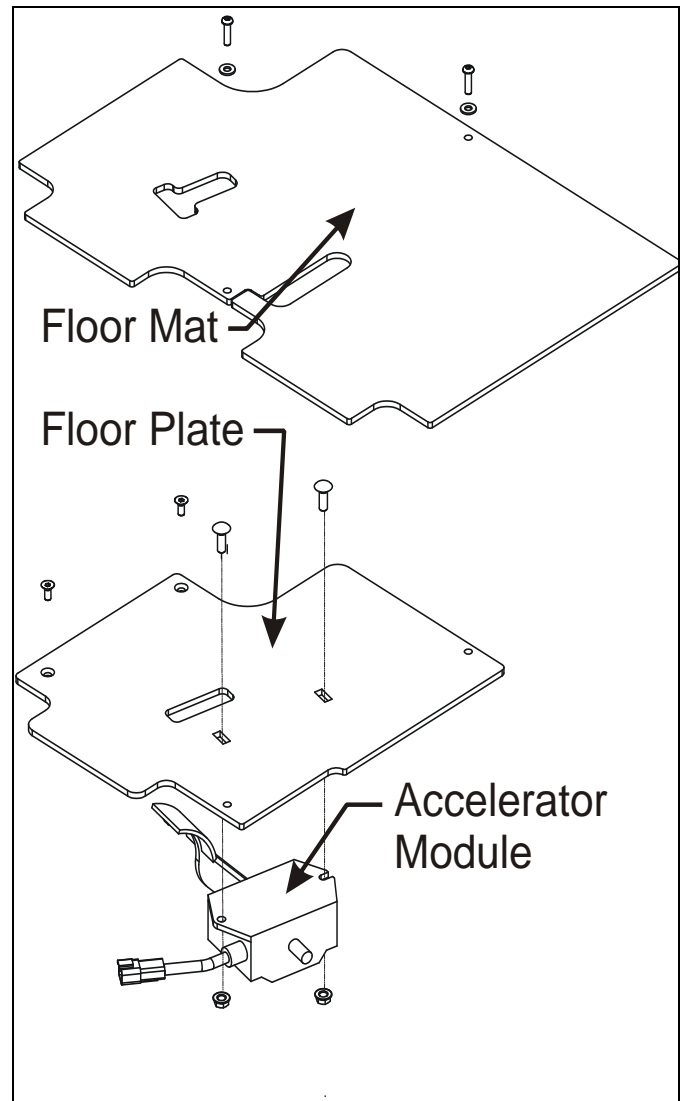

Figure 2-1 Floor Plate Assembly
2. Lift up the rubber floor mat, carefully separating it from the accelerator and brake pedal. (See Figure 2-1)